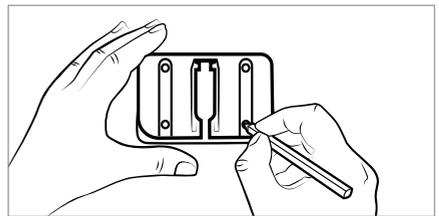

Fig. 5
- 3) Use the wall bracket 18 to mark the four drill holes on the wall (see Fig. 5).